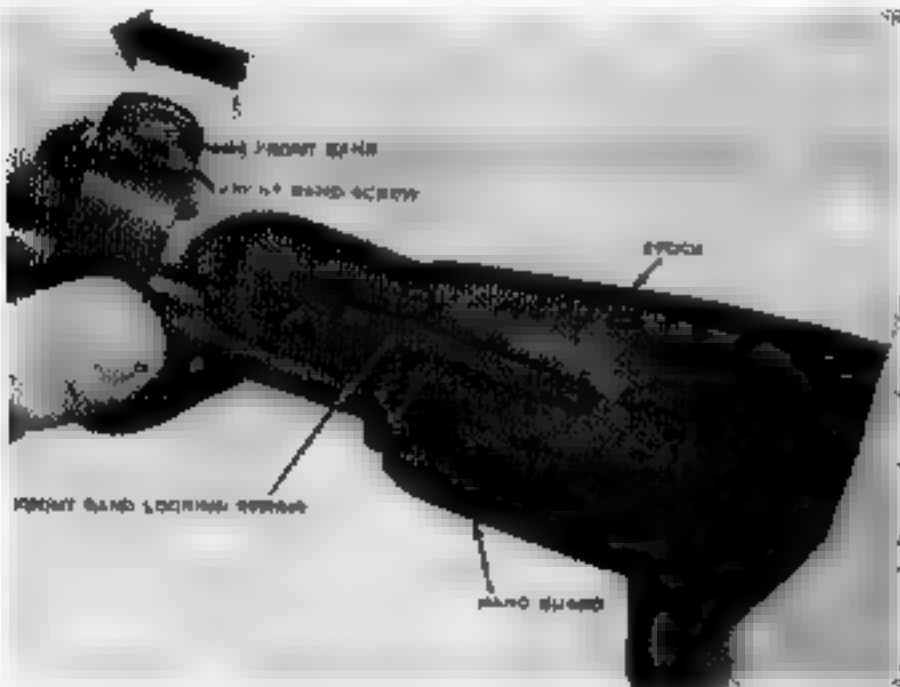

Figure 4. Sliding the front band forward.
c. To remove the wooden hand guard, you must slide the front band forward toward the muzzle end of the weapon. To do this, grasp the carbine on your left hand with the front band screw head pointing to your right. Using a screwdriver or the rim of a dummy cartridge, loosen the front band screw about one-eighth of an inch. Depress the front band locking spring and slide the front band forward, disengaging it from the stock group and the hand guard (Fig. 4). If the